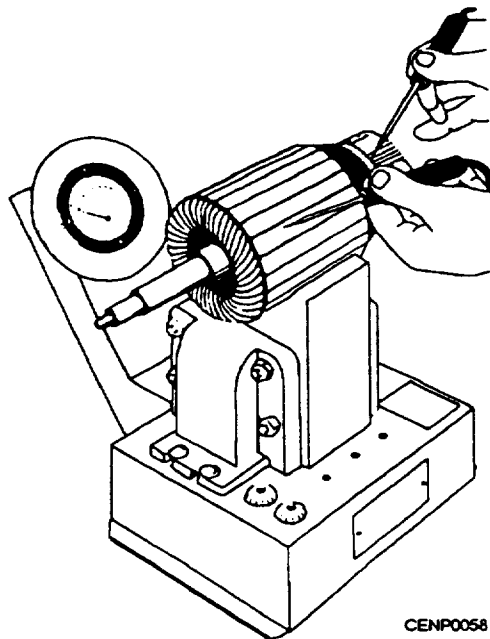

Figure 7-58.—Testing for grounds in armature windings.
**Armature Winding.**—The first test on an armature winding should be to locate grounded circuits. This test is also performed with a series test lamp. Touch one test prod to the armature core or shaft, as shown in figure 7-58. Using the other test prod, touch each commutator segment. If the armature winding is grounded, the test lamp will light when you apply the lamp prod to the grounded armature winding or commutator segment. Replace the grounded armature when all attempts to remove the ground have failed.